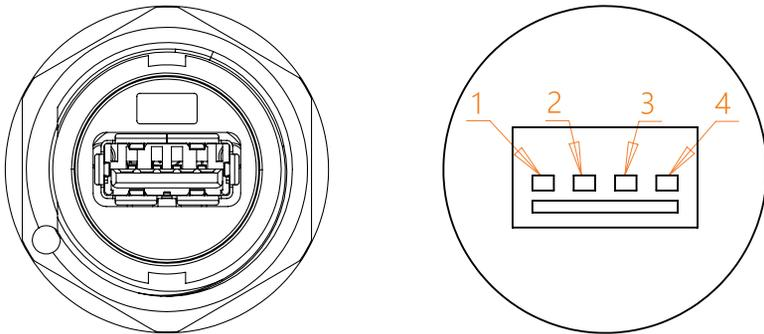

Figure 5-13 RS485 pins
2. The detail of the USB RS 485 as shown in Figure 5-13;